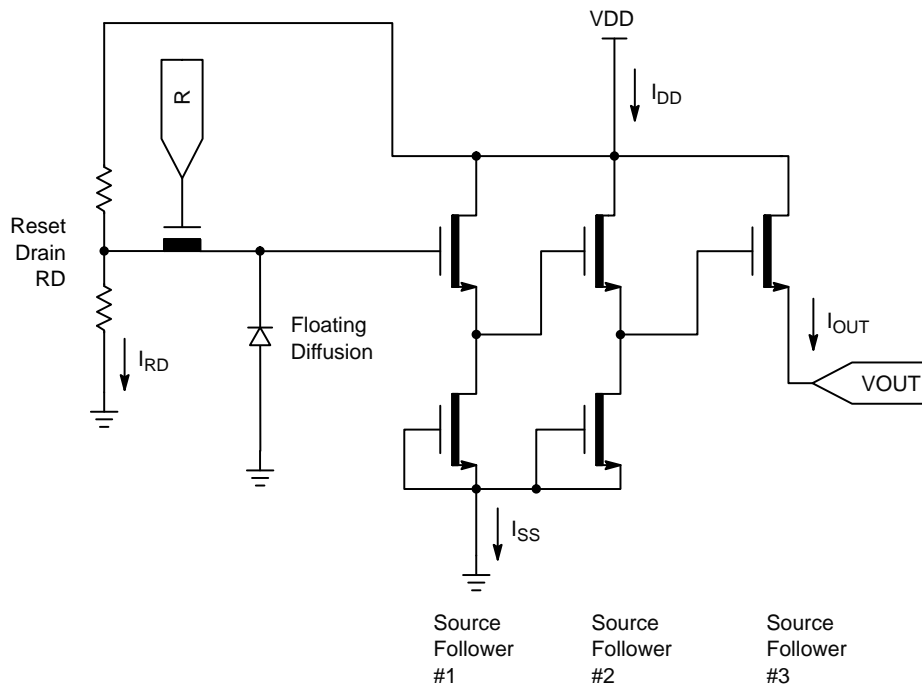

Figure 13. Output Amplifier
- 15. Each output. See Figure 13. Note that the current bias affects the amplifier bandwidth.
- 18. The maximum DC current is for one output unloaded and is shown as I_{RD} + I_{SS} in Figure 13. This is the maximum current that the first two stages of one output amplifier plus the reset drain bias circuit will draw. This value is with V_{OUT} disconnected.